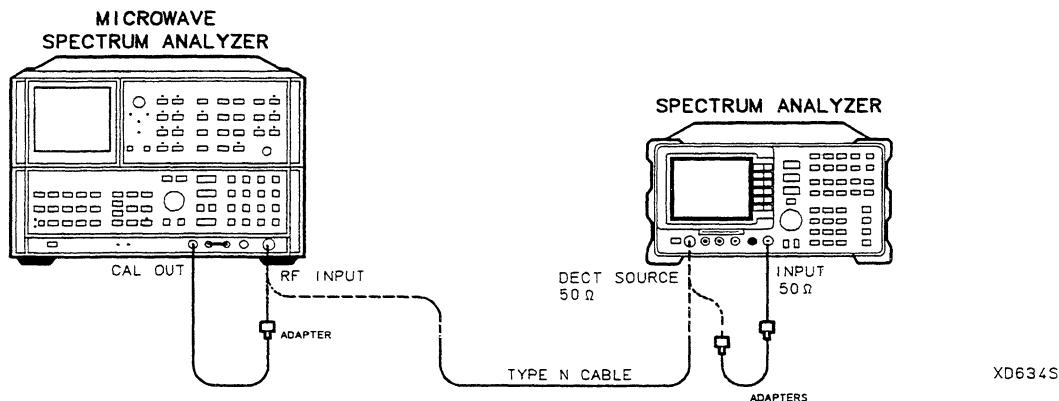

Figure 9-5. Non-Harmonic Spurious Outputs Test Setup
2. Connect the 23 cm BNC cable between the DECT SOURCE $50\ \Omega$ and INPUT $50\ \Omega$ connectors on the spectrum analyzer, using the N(m) to BNC(f) adapters. Refer to Figure 9-5.
8. Connect the Type N cable from the DECT SOURCE $50\ \Omega$ output to the microwave spectrum analyzer RF INPUT as shown in Figure 9-5.
2. Connect the 23 cm BNC cable between the DECT SOURCE 50 Ω and INPUT 50 Ω connectors on the spectrum analyzer, using the N(m) to BNC(f) adapters. Refer to Figure 9-5.
4. Connect the Type N cable from the DECT SOURCE $50\ \Omega$ output to the microwave spectrum analyzer RF INPUT as shown in Figure 9-5.